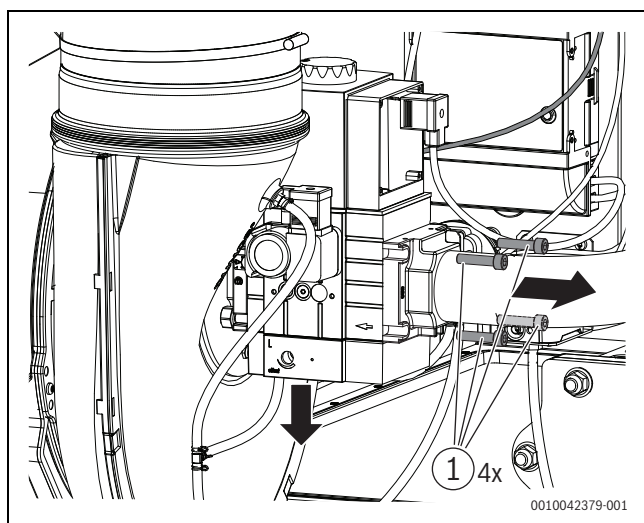

Fig. 50 Unscrew the screws on the air/gas ratio control valve
- ▶ Loosen the gas pipe on the gas valve. For this purpose, remove the 4 screws on the flange (→Fig. 50).